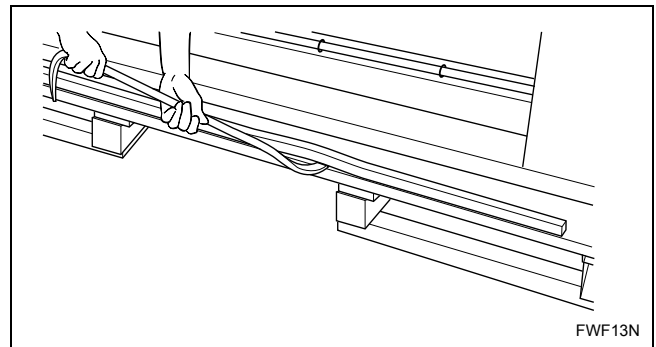

Figure 5
3. Use a pry bar to remove the wood stops from the skid. Refer to *Figure 5*.